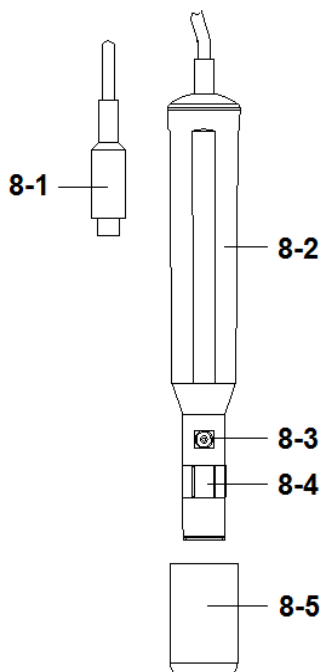

Fig. 5
- 1) Prepare the Oxygen Probe (optional, DOPB-11), install the " Probe Plug " (8-1, Fig. 5) into the " DO Socket " (3-14, Fig. 1).
- 1) Install the " Probe Plug " (8-1, Fig. 5) into the " DO Socket " (3-14, Fig. 1).
- 5) **When not use the probe, should insert the " Probe head " into the " Probe protection cover " (8-5, Fig. 5)**